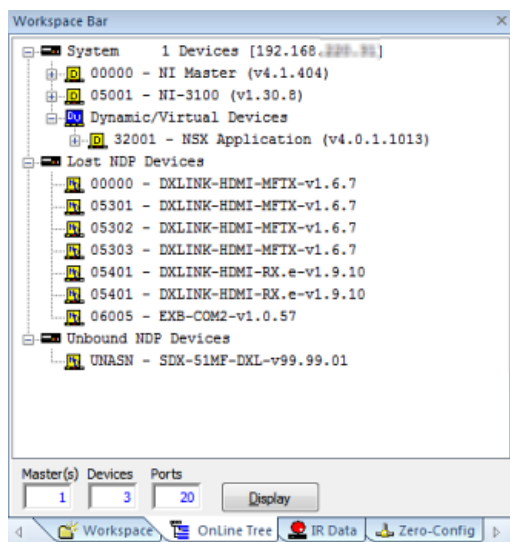

FIG. 7 Workspace Bar - Online Tree
- Right-click the **Online Tree** tab entry and select **Refresh System**: the Controller should appear in the Device Tree (FIG. 7):